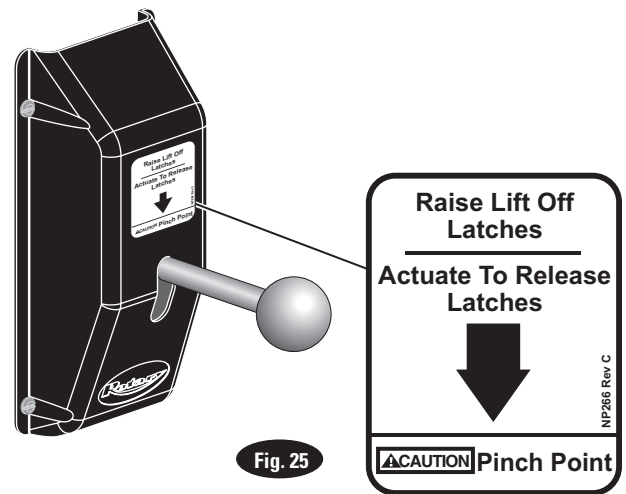

Fig. 25
22. Latch Release Decal: Install latch release decal on cover above latch release handle, Fig. 25.